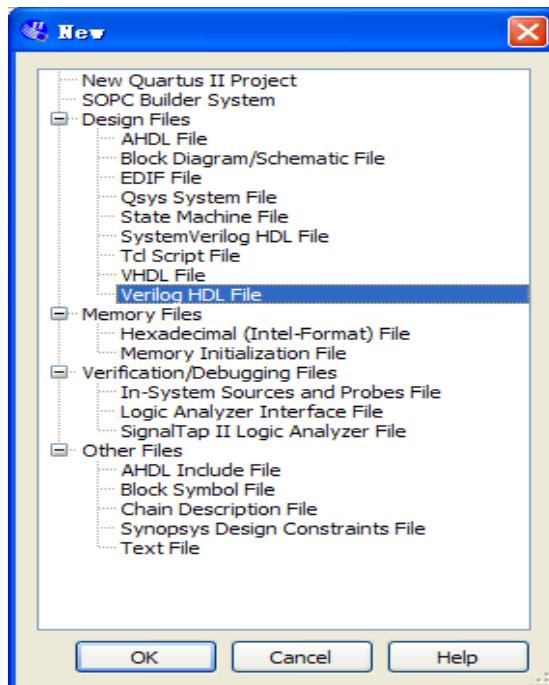

**Figure 7-39 Return to Quartus II after exiting SOPC Builder**
24. Click **Exit** to exit the SOPC Builder and return to the window as shown in **Figure 7-39**.